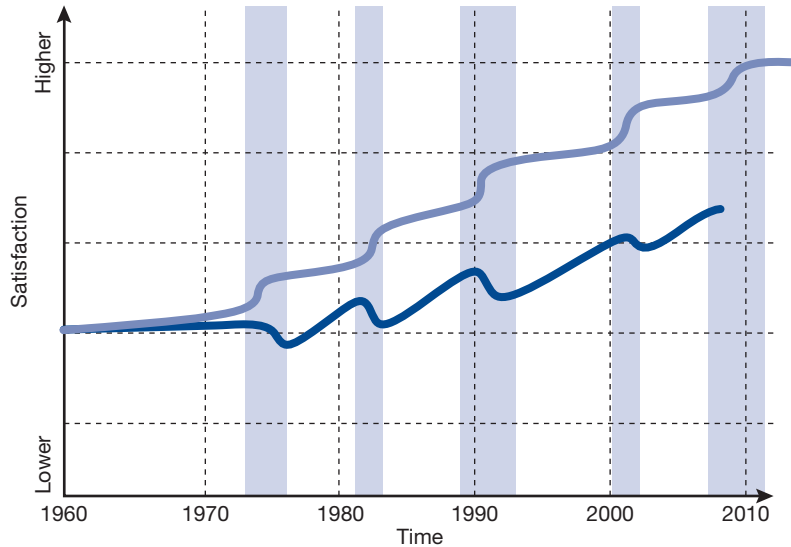

Figure 3.19 Time/satisfaction chart: owners' expectations; designers' and constructors' response. *Sam Spata, Architect, AIA, LEED® AP BD+C*
**KF:** To be on the leading edge of the technology curve. We work very hard to be ahead of the rest of the industry. There's no real roadmap for doing that. I worry about whether we're identifying good technology directions and quickly galloping up the learning curve and getting good at these technologies before they're in big demand. I actually have an incredibly vast, international network of contacts. A lot of the leading edge stuff isn't particularly published—it's in people's heads or buried somewhere. Not stuff you can Google. So you have to go to the people. That's why I am so active in so many organizations. That and staying in touch with people—it's something I got used to doing very early in my career. (See Figure 3.19.)